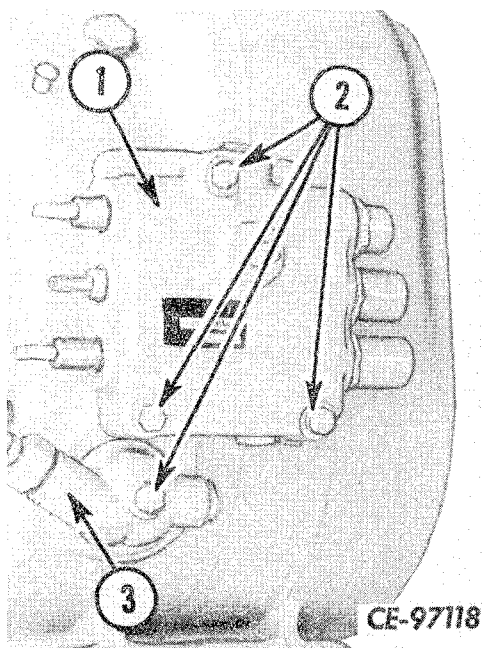

Figure 4-63
Install the main control valve, (1, Fig. 4-63) on the transmission and secure it with cap screws (2). Be certain to install new "O" rings at the pressure ports between the valve and the housing. Tighten cap screws to recommended torque (refer to "SPECIAL TORQUES").